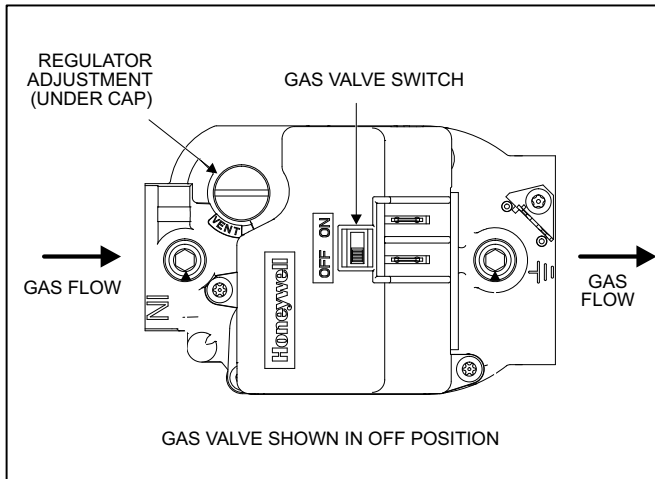

Figure 1. Gas Valve
3. Move the gas valve switch to the **ON** position (figure 1).
2. Move the gas valve switch to the **OFF** position (figure 1).